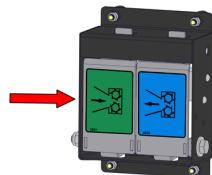

Figure 16 - Forward Feed Control
4. Press the **GREEN** Forward Feed Control (Figure 16).